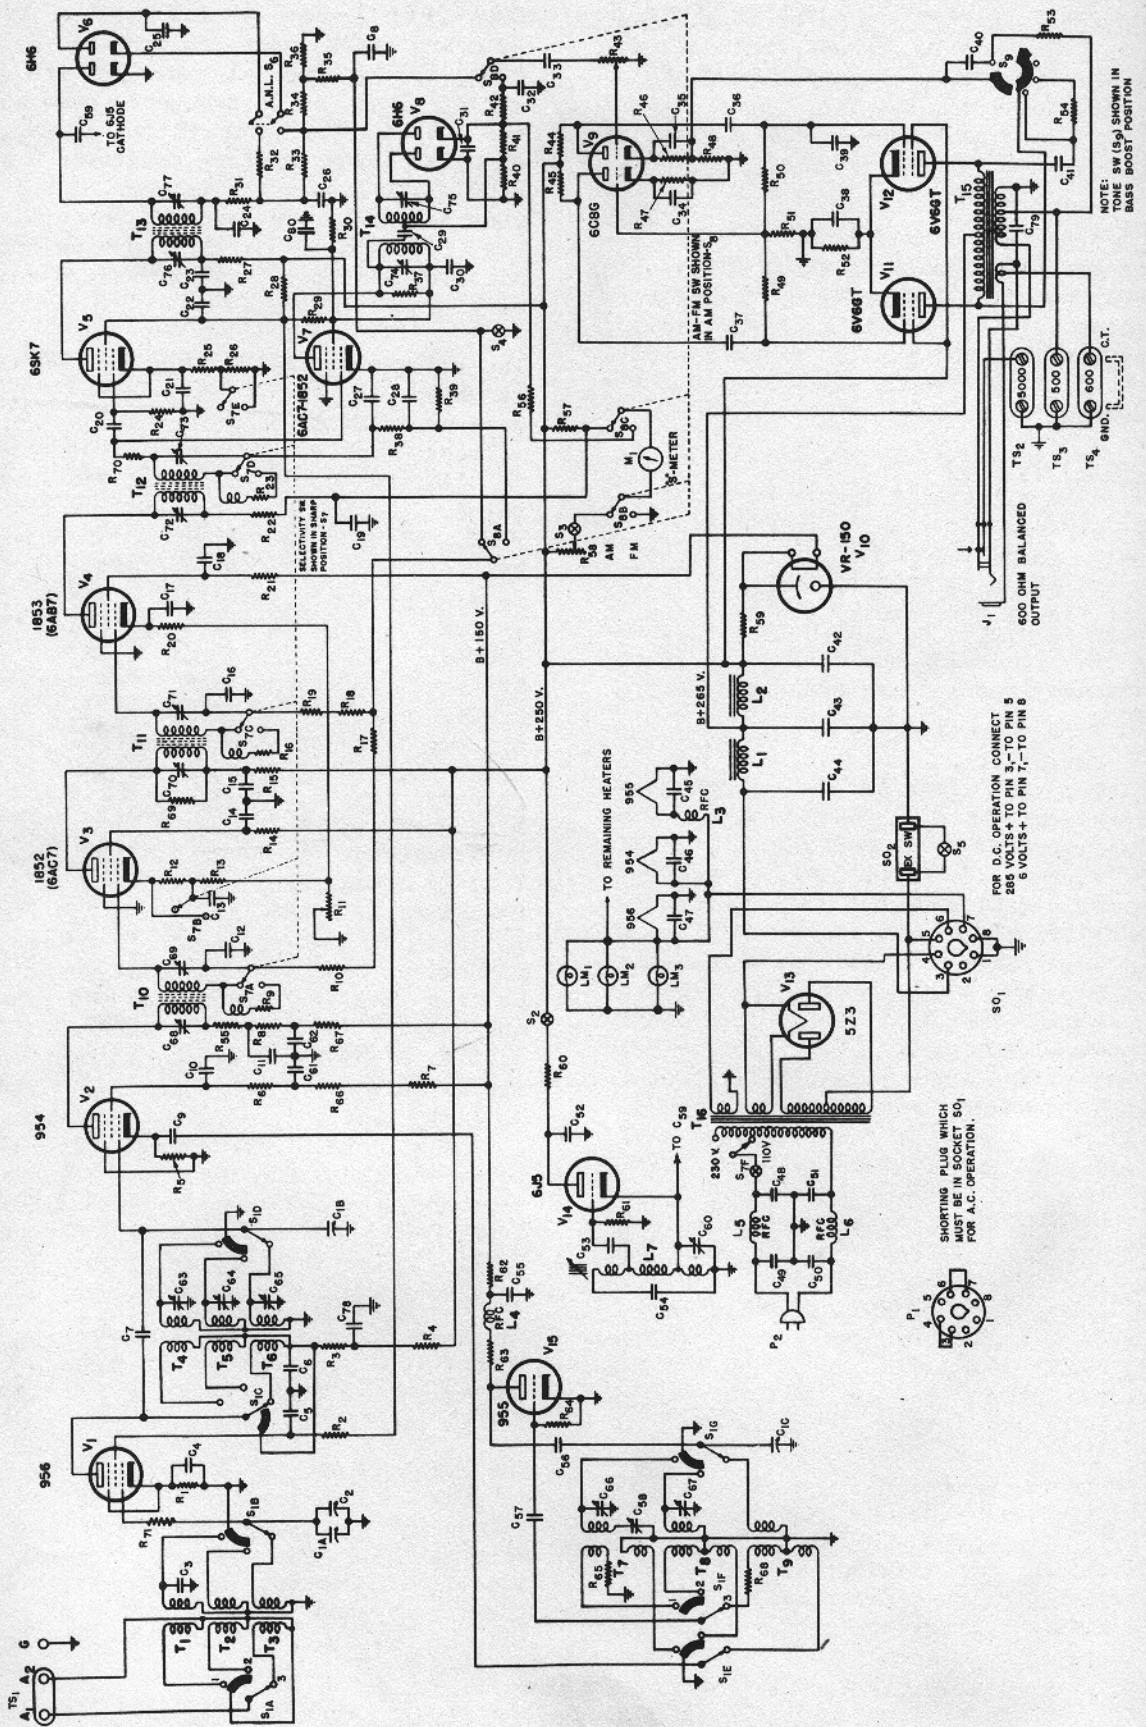

Figure 3. Model S-36 Receiver, schematic wiring diagram
**A-3. CIRCUIT DESCRIPTION** - The signal enters the receiver through the antenna terminals and flows through the primary of the first R.F. transformer, T-1. A voltage is induced in the secondary which is then applied to the grid of the first R.F. tube V-1. Refer to Fig. 3.